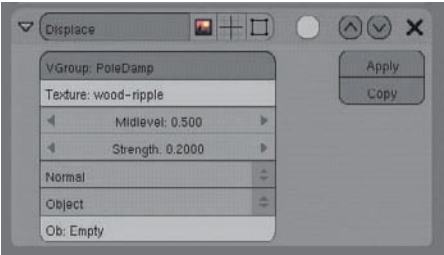

Figure 1.67 The Displace modifier
6. Now it's time to add the Displace modifier for the flag mesh in the Modifiers tab, with the settings shown in Figure 1.67. For VGroup, type the name of the vertex group you set up in step 3, and select Object from the texture coordinates drop-down menu at the bottom of the panel. Type the name of the empty from step 5 in the Ob field. Leave Midlevel at 0.5, and set the Strength at around 0.2. You can see the effect of the modifier in the 3D window.